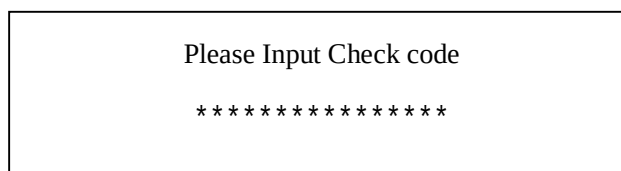

Figure 3-25
1. Press “Enter” of the keyboard, as shown in figure 3-25 shows: